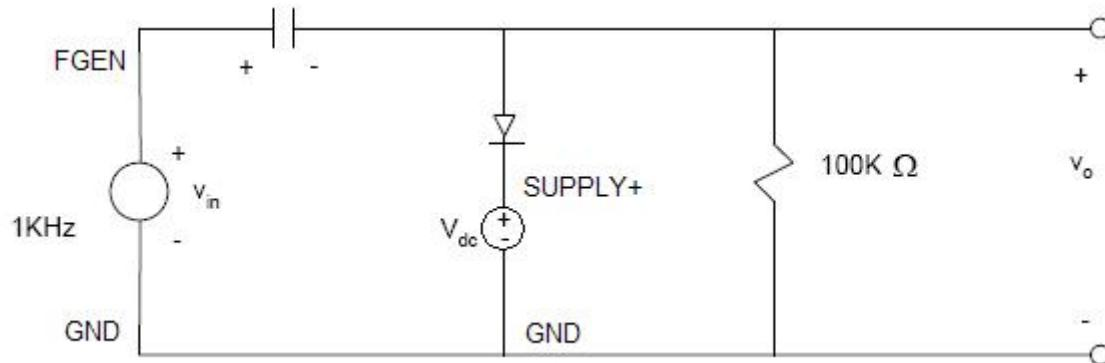
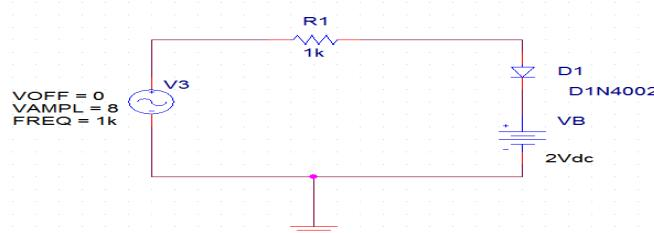

Fig 4.7 Clamping circuit
Fig 4.8 Circuit Diagram of Clipping Circuit 1
Build the circuit shown in Figure 4.8 and make an accurate sketch of the input and output waveforms for a $8V_P$ sine wave input voltage for each of the following conditions. **Each condition should be relative to the circuit as shown in Figure 4.7.** Be sure to record the peakvalues of both waveforms on your sketch. A capacitor larger than $22 \mu\text{F}$ will work in this circuit.
3. Clamper — Build circuit (Figure 4.7)